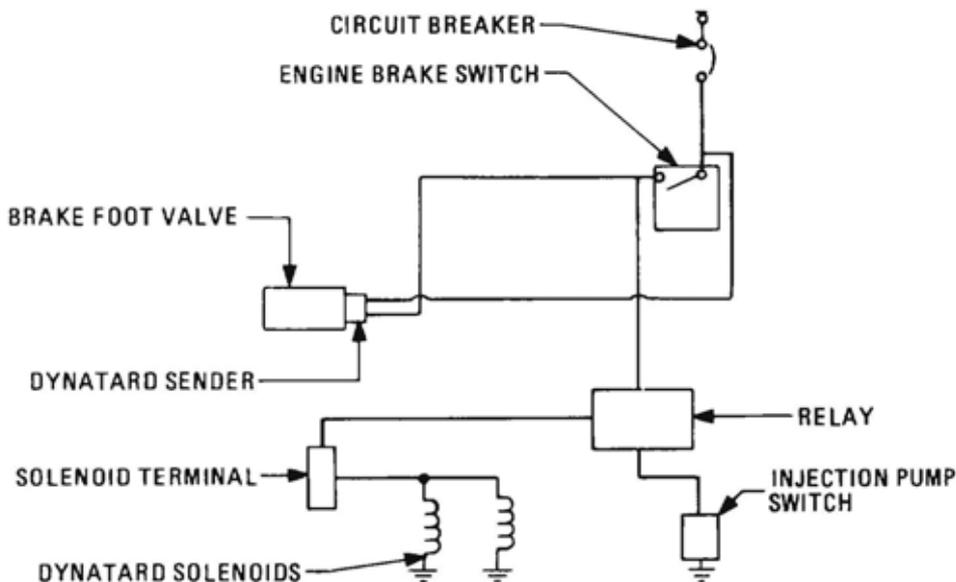

Figure 46 Dynatard Brake Wiring Circuit
65. Electrical controls energise the solenoids, which turn the Dynatard brake on and off. They include the cab switch, treadle valve brake switch, relay(s), fuel injection pump switch and the solenoids (Figure 46). The fuel injector switch closes only when the fuel injector rack is in the 'no-fuel' position. This ensures that the brake can only be energised when fuel is not being injected into the engine. The purpose of the relay is to eliminate the need for the heavy solenoid current to pass through the fuel injection pump switch.